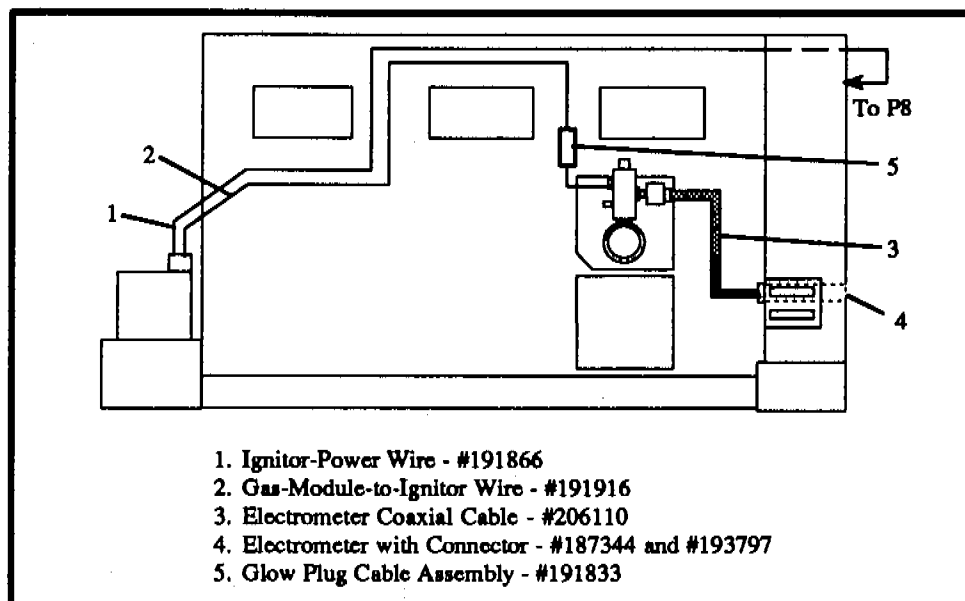

Fig. 3.6 FID Electrical Connections
- Connect the gas-module-to-ignitor wire (OI Analytical #191916) from the connector on the pigtail of the glow plug assembly to the inboard terminal of the ignition switch on the Gas Flow Module, referring to Fig. 3.6.